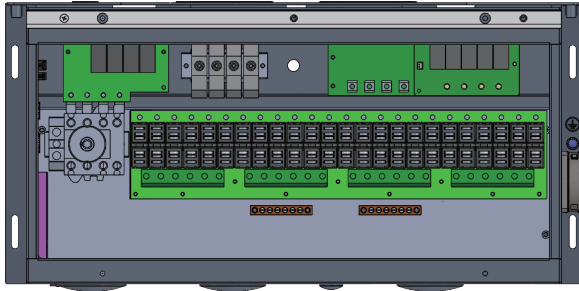

Figure 3-24: DC Wiring illustration
- DC wiring polarities are divided into positive and negative, which is shown in **Figure 3-24**. The connection shall be coherent with the indication marked on inverter.